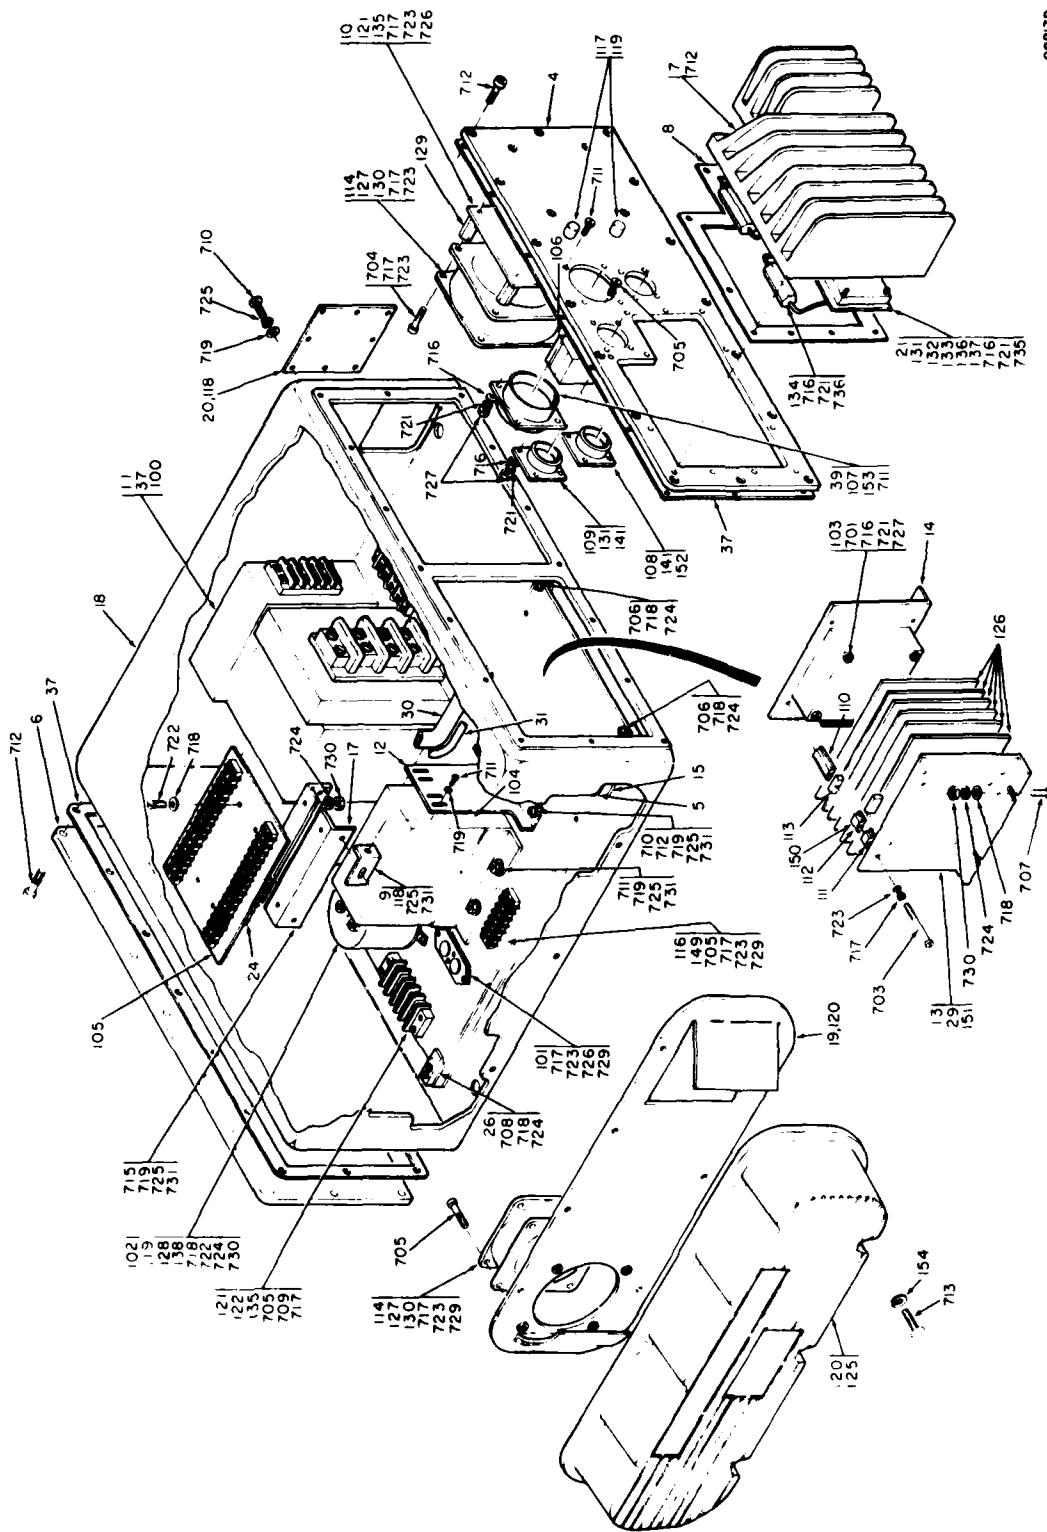

Figure 5.2. Disassembling the Electronics Base
- a. Disconnect cables from connectors J101, J102 and J103 (107, 108, 109, Figure 5.2).
- b. Remove screws (712) and front cover (4). Do not remove heat sink (7) from cover.
- c. Inspect gasket (37) under the cover. If gasket was damaged during cover removal, remove the gasket, scrape mating surfaces clean then install new gasket.
- b. Remove four screws (702, Figure 5.2) and nuts (728), and remove J102 (108) from the front cover (4).
- c. Disconnect the wires on the load side of CB1 (106).
- e. Remove the wires from terminal boards TB 101, and TB 102 (115) so that plate (13) can be removed. Be careful to preserve, as much as possible, the fanning shape of the wires.
- f. Remove the wires from TB 110 (116).
- a. Remove screws (712, Figure 5.2), and back cover (6).
- b. Inspect gasket (37) under cover. If gasket was damaged during cover removal, remove gasket, scrape mating surfaces clean, then install new gasket.
- a. Connect wires to terminal boards TB101 and TB102 (115, Figure 5.2) on printed circuit card rack plate (13).